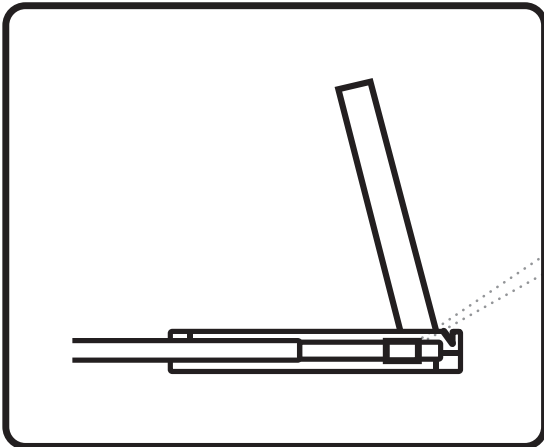

Figure 12.
- A black arrow release button is located on the outside of each slide. (shown in **Figure 12**).